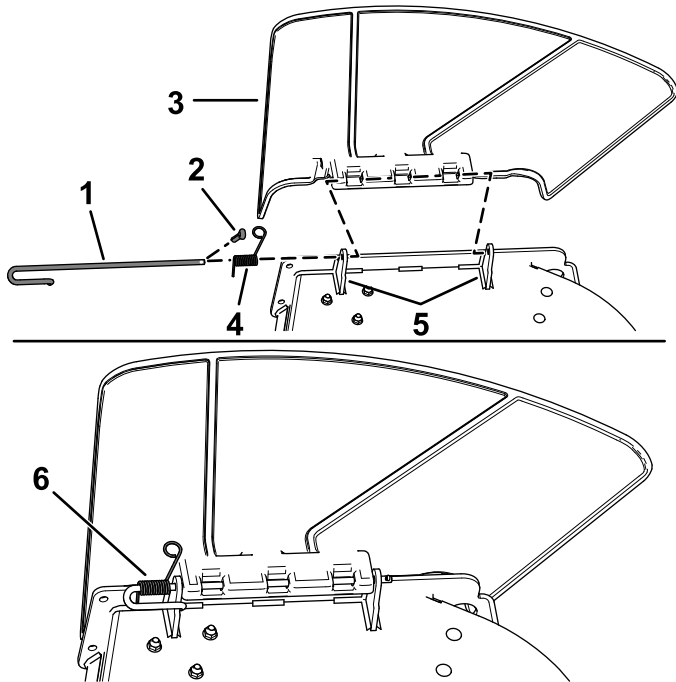

Figure 11
1. Remove the cotter pin (Figure 11).
2. Disengage the spring from the notch in the deflector bracket and slide the rod out of the welded deck brackets, spring, and discharge deflector (Figure 11).